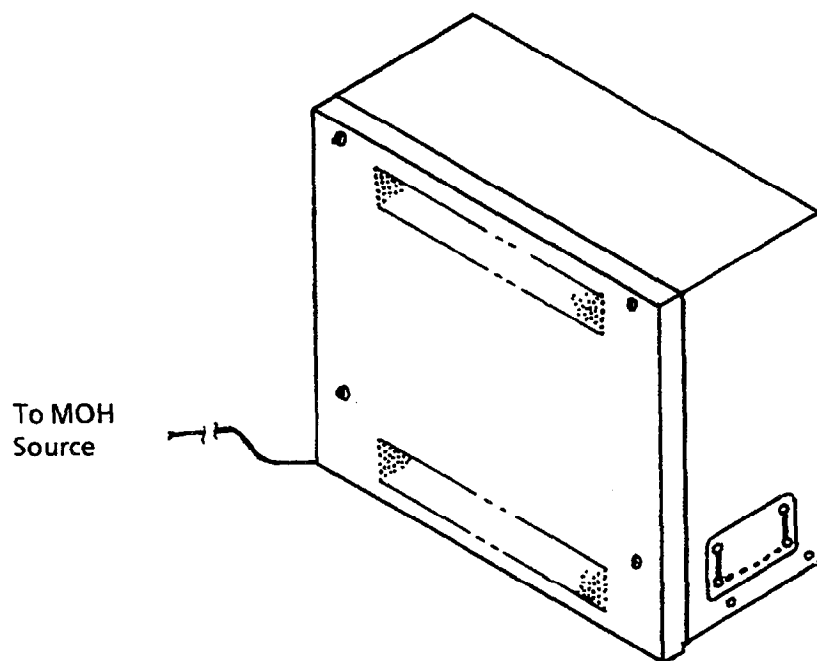

Figure 2-79 MOH Cable Route
8. Route the cable down and to the right side of the KSU to avoid interference with the insertion and the removal of KTUs. Exit the other end of the cable at the right rear side of the KSU. Refer to Figure 2-79 - MOH Cable Route.